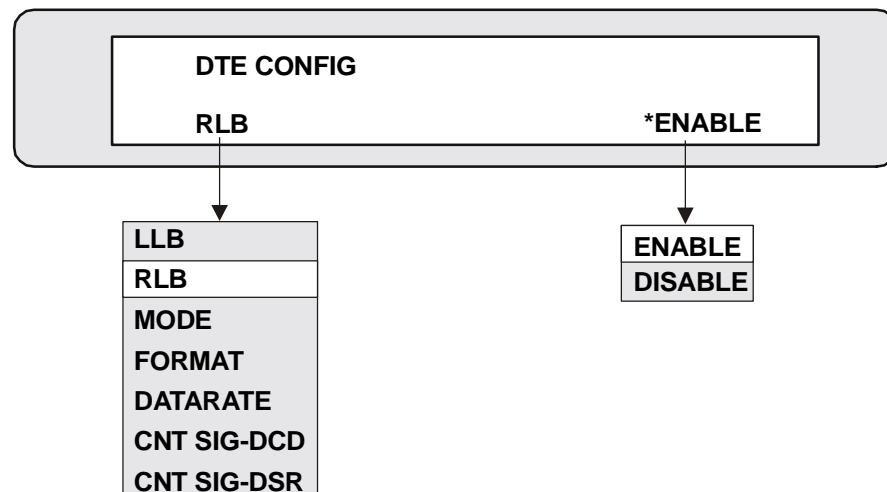

Figure 4-11. Configuring RLB Option
2. Press the SCROLL button until DTE CONFIG is displayed (see Figure 4-11).